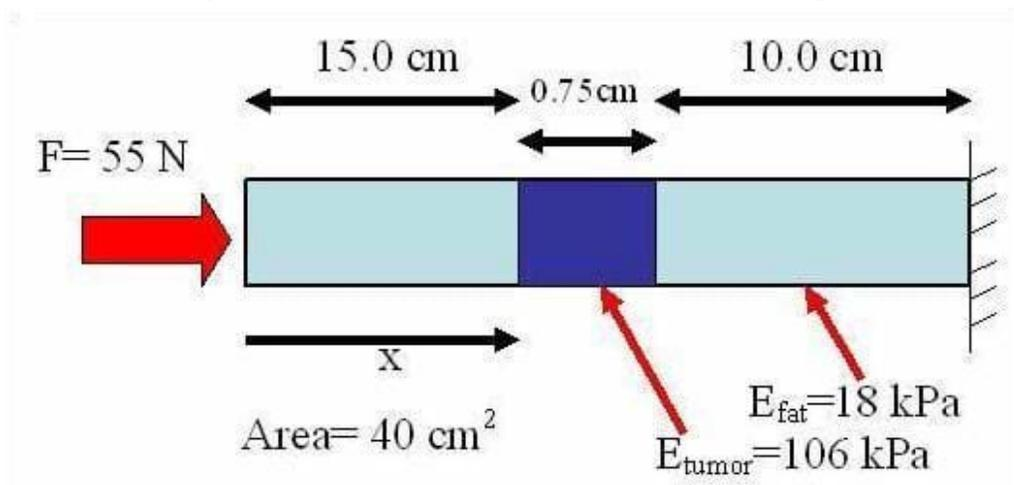

Figure 1. A column of fatty tissue.
7. Figure 1 shows a column of fatty tissue, determine the strain in each of the three regions.